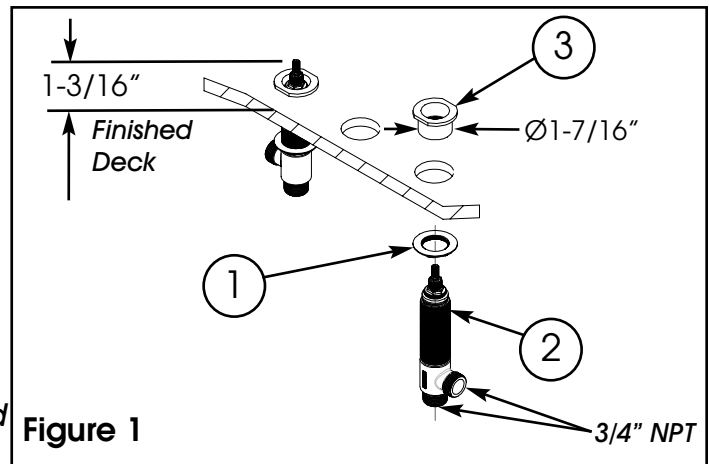

Figure 1
- Place flange NUT (1) on valve BODY (2).
- Insert BODY (2), (blue cold & red hot), through hole from below mounting surface.
- Thread inverted NUT (3) onto VALVE (2).
- Adjust valve stem to 1-3/16" above the mounting surface. See Figure 1.